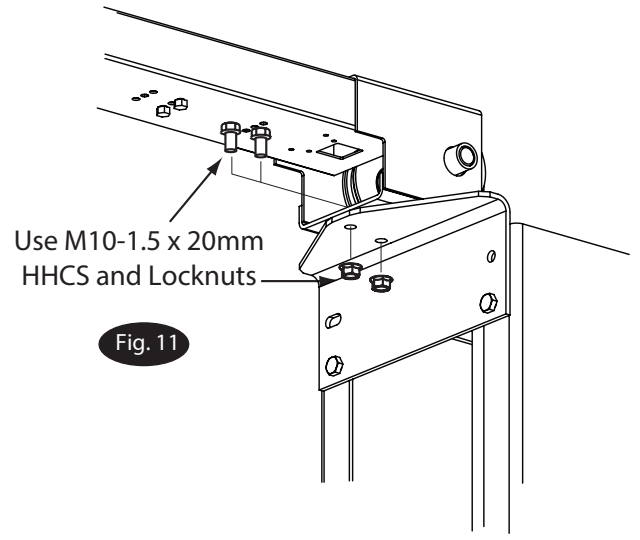

Fig. 11
11. **Overhead Installation:** Install overhead assembly to Mounting Bracket with (2) M10-1.5 x 20mm HHCS, and (2) M10-1.5 Flanged Locknut Fig. 11. Tighten bolts at center of overhead assembly.